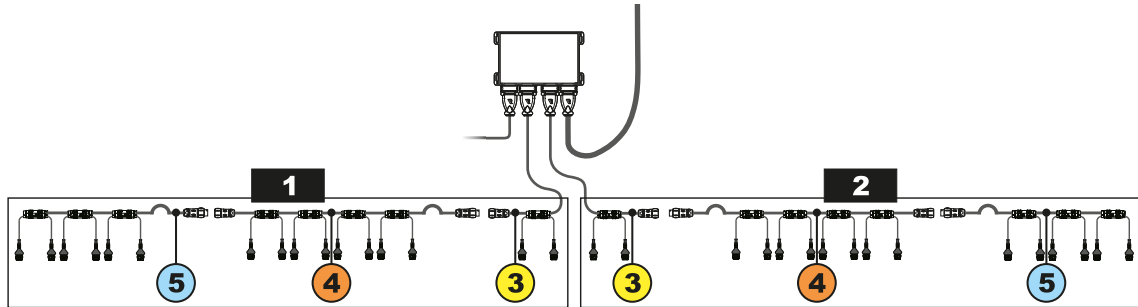

Fig. 11
**1** The Seletron units are connected to the ECU (Fig. 11) via two main wiring harnesses (**1** and **2**) each made up of three types of cables: head-end cable (**3**), extension cable (**4**) and termination cable (**5**); the termination cable is indispensable in order to close circuit. **The system will not operate without a termination cable.**